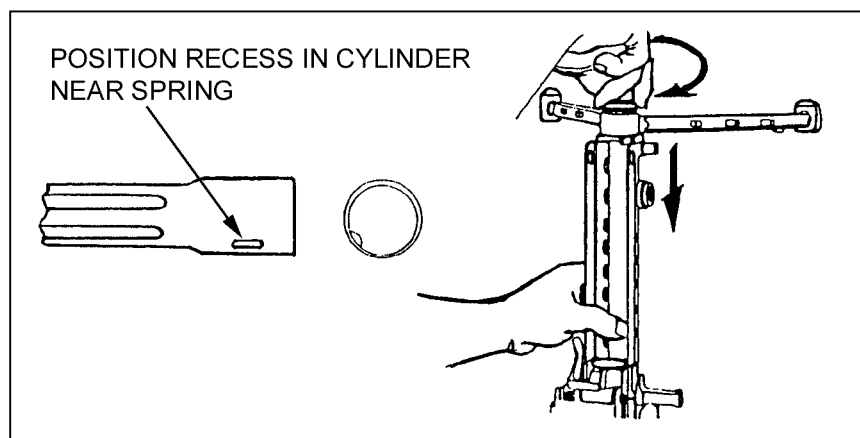

Figure 1-25. Replacement of gas cylinder group.
b. **Replacing the Gas Cylinder Group.** Push the gas cylinder through the bipod yoke into the receiver. Push the cylinder to the rear while countering the pressure of the locking spring and guiding the end of the cylinder into the receiver with the other hand applying downward pressure. Position the recess in the cylinder near the spring. Turn the cylinder until the spring clicks into the recess at the rear of the gas cylinder (Figure 1-25).